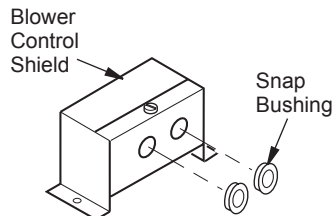

Figure 15 - Installing Snap Bushings
2. Install snap bushings found in hardware kit into both holes in rear of blower control shield (see Figure 15).